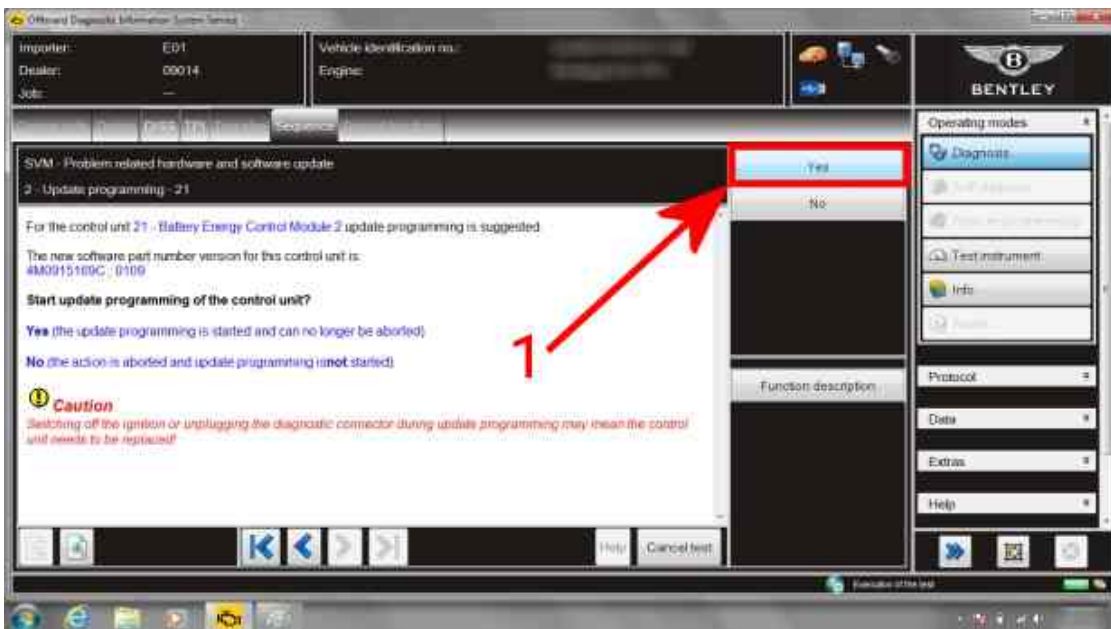

Figure 4
10. Referring to Figure 4, Check you have entered the correct SVM code (1) and select Yes (2)
14. Select Yes at Update programming 21 to update 21 – Battery Energy Control Module 2 (see Figure 4 point 1)